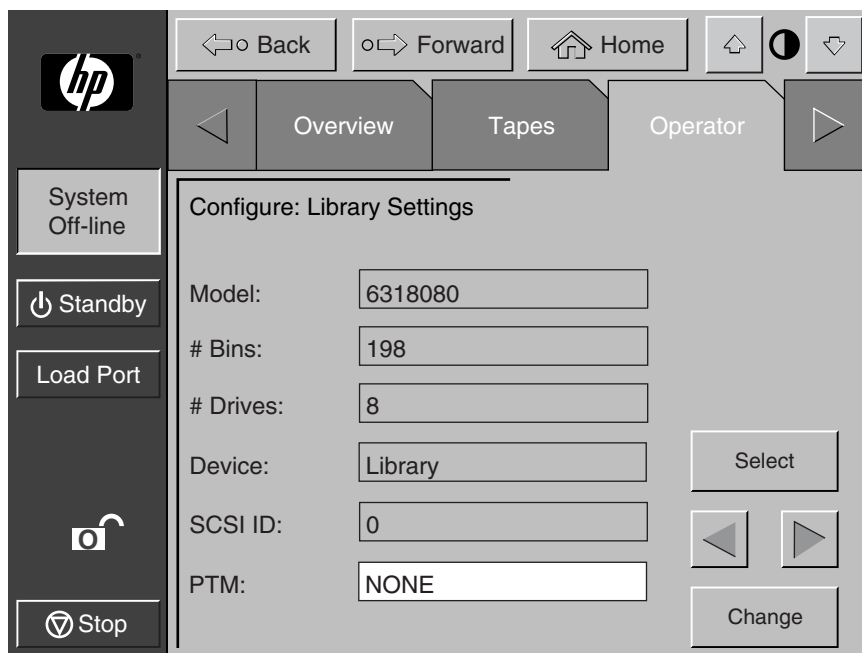

Figure 4-4: Configure: Library Settings screen (ESL9198 shown)
2. Press the **Configure** button. The control panel displays the Configure: Library Settings screen (see Figure 4-4). Make sure that the library is off-line.
To configure the PTM, set the PTM option to either None, Right, Left, or Both (see Figure 4-4). This automatically adjusts the number of bins in the library.